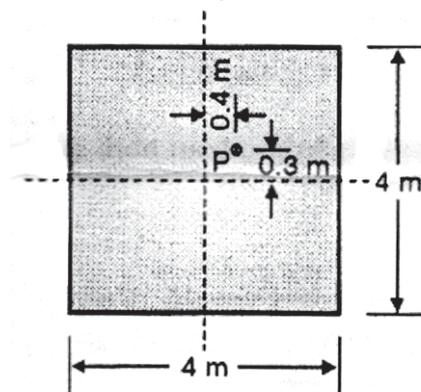

Fig.6
- Q8) a) Determine the stress resultant at four corners of column subjected to eccentric load of  $P = 600\text{KN}$ , shown in fig.6 Also draw the stress distribution diagrams. [10]